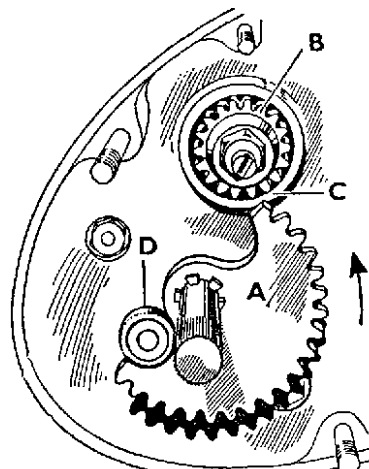

FIG. 4. THE KICK-STARTER (1945-51)
Avoid Force on Kick-starter Pedal. It is very important not to exert excessive force on the kick-starter pedal (*see* Fig. 4) until the toothed quadrant (A) has moved in the direction of the arrow sufficiently to bridge the gap (C) between the quadrant and the kick-starter ratchet pinion (B).